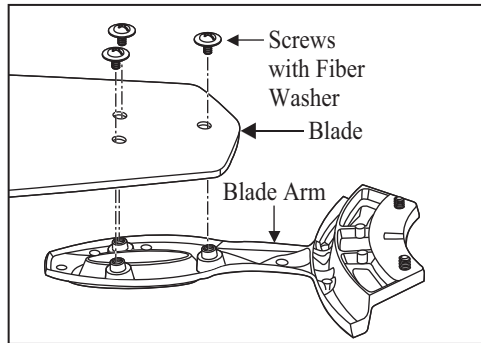

Figure 14
1. Attach blades to blade arm using the screws with fiber washers provided (Fig. 14). Start a screw into the blade arm, do not tighten. Repeat for the 2 remaining screws and washers.